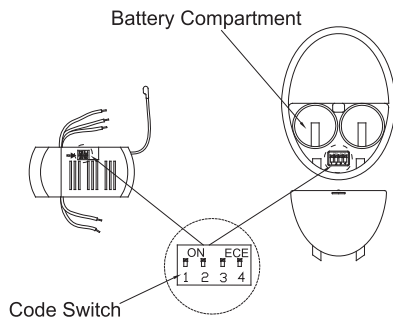

**Fig. 13**
**Step 1.** Drive a wood screw and washers into the side of the brace that holds the outlet box. Leave 3mm (1/8") of space between the support brace and the washer. (Fig. 13)